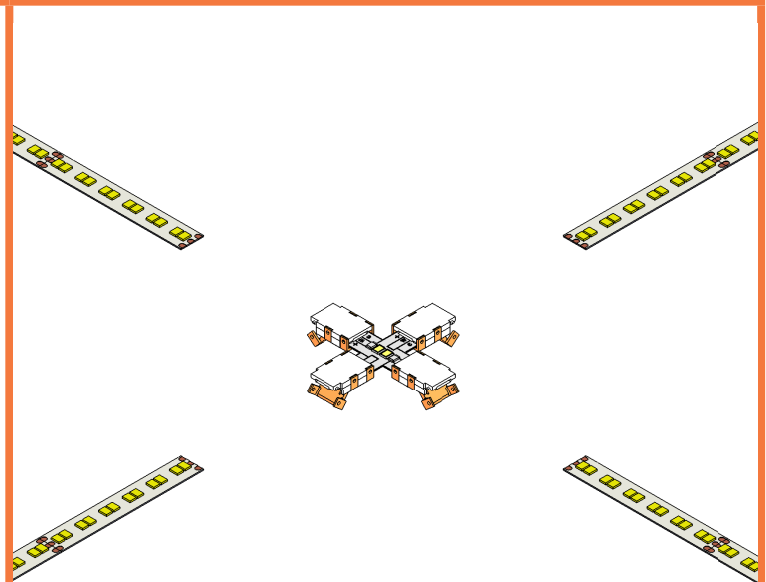

Figure 2
4. Verify that all copper contacts are properly seated and aligned with the connector pins. (See Figure: 2)